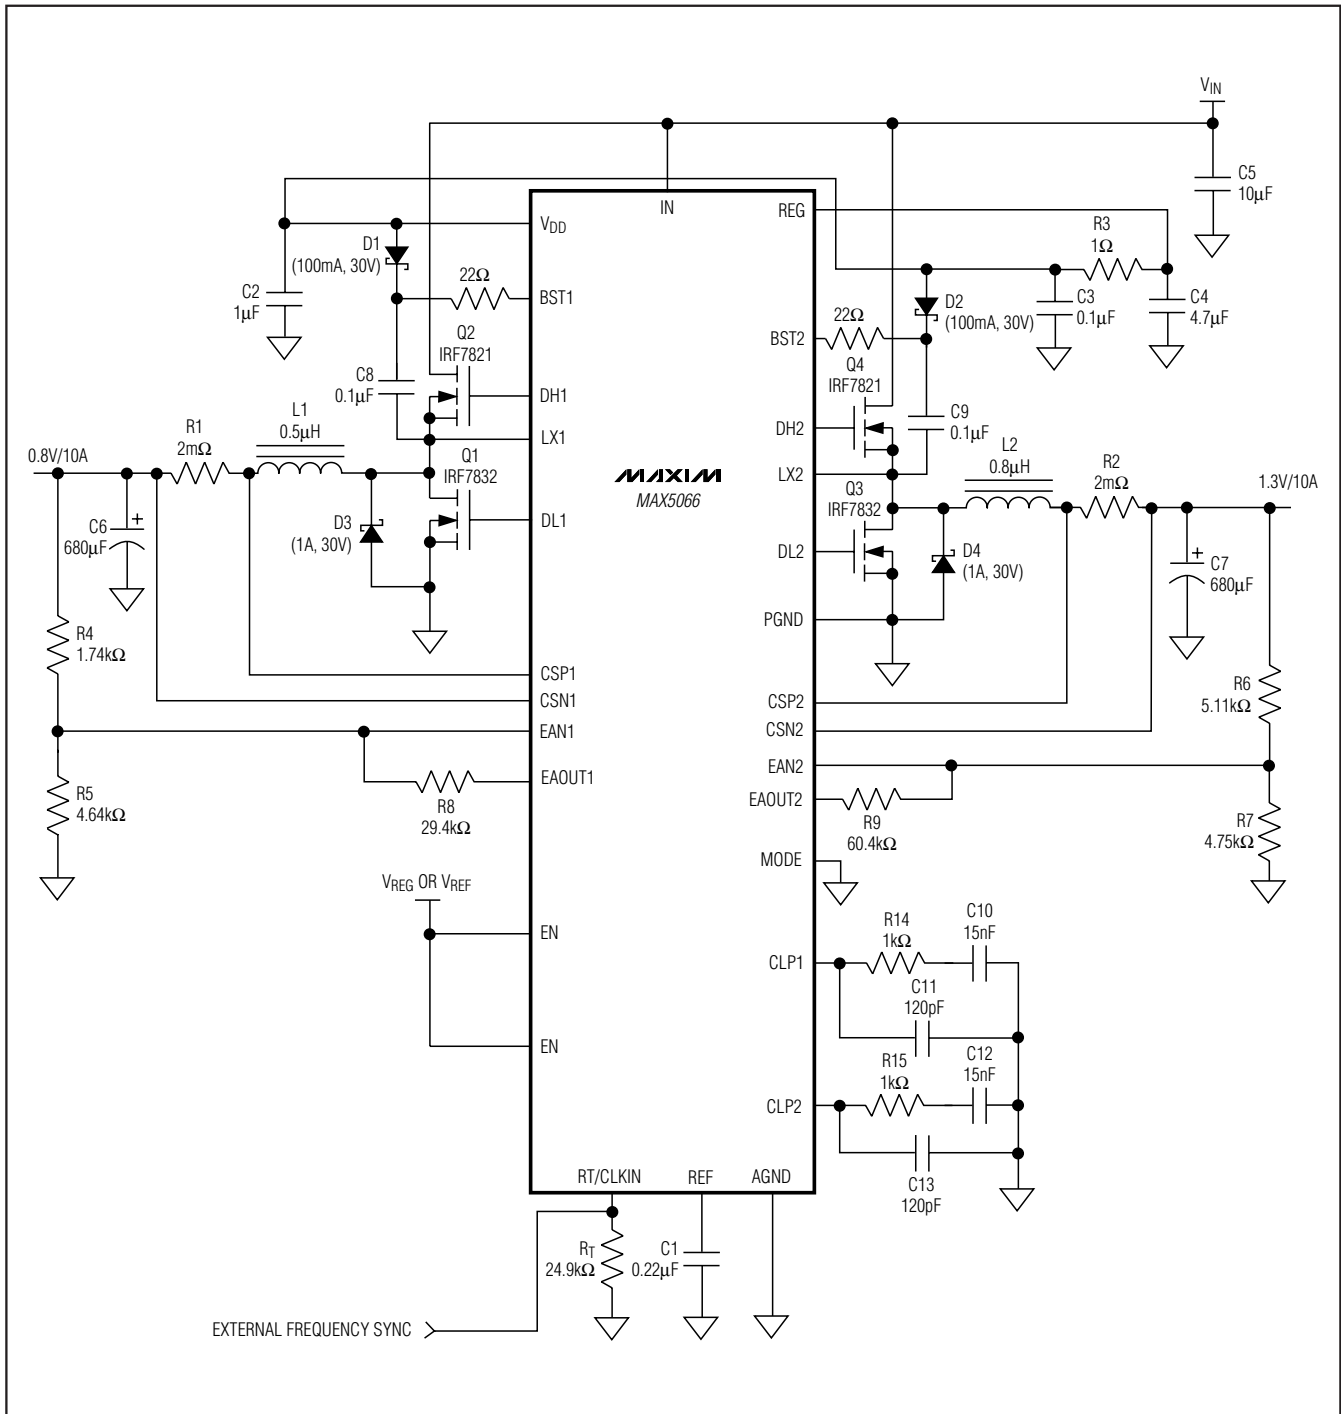
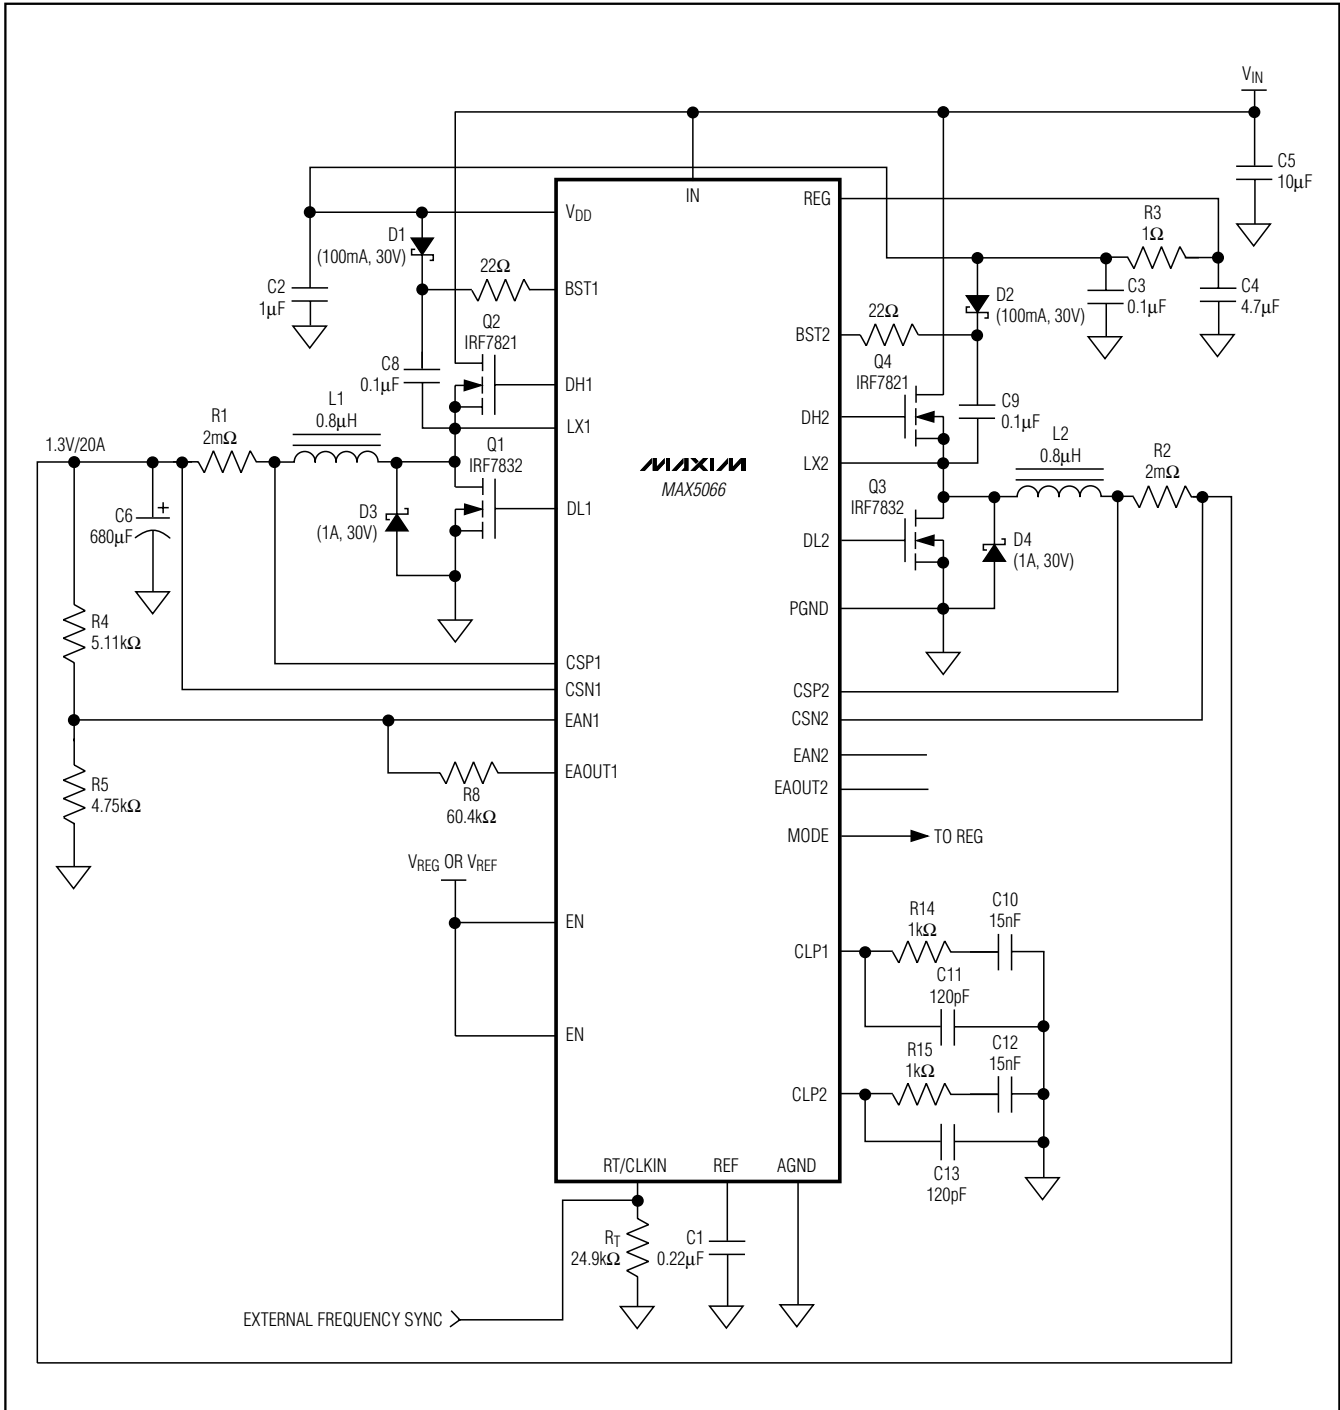

Figure 6. Dual-Output Buck Regulator
Figure 7. Dual-Phase, Single-Output Buck Regulator
where IIN is the quiescent supply current into IN (4mA, typ), QGQ1, QGQ2, QGQ3, QGQ4 are the total gate charges of MOSFETs Q1 through Q4 at VGS = 5V (see Figure 6), and fSW is the switching frequency of each individual phase.
BST1 and BST2 supply the power for the high-side MOSFET drivers for output 1 and output 2, respectively. Connect BST1 and BST2 to VDD through rectifier diodes D1 and D2 (see Figure 6). Connect a 0.1μF ceramic capacitor between BST_ and LX_.
the boost capacitors, C8 and C9 (see Figure 6). This is accomplished by using short, wide trace lengths.
The compensation network at the current-error amplifiers (CLP1 and CLP2) provides an inherent soft-start of the output voltage. It includes (R14 and C10) in parallel with C11 at CLP1 and (R15 and C12) in parallel with C13 at CLP2 (see Figure 6). The voltage at the current-error amplifier output limits the maximum current available to charge the output capacitors. The capacitor at CLP_ in conjunction with the finite output-drive current of the current-error amplifier yields a finite rise time for the output current and thus the output voltage.
An internal oscillator generates the 180° out-of-phase clock signals required for both PWM modulators. The oscillator also generates the 2VP-P voltage ramps necessary for the PWM comparators. The oscillator frequency can be set from 200kHz to 2MHz by an external resistor (RT) connected from RT/CLKIN to AGND (see Figure 6). The equation below shows the relationship between RT and the switching frequency:
bility of these drivers provides ample drive for the fast rise and fall times of the switching MOSFETs. Faster rise and fall times result in reduced switching losses. For low-output, voltage-regulating applications where the duty cycle is less than 50%, choose high-side MOSFETs (Q2 and Q4, Figure 6) with a moderate $R_{DS(ON)}$ and a very low gate charge. Choose low-side MOSFETs (Q1 and
Q3, Figure 6) with very low $R_{DS(ON)}$ and moderate gate charge. The driver block also includes a logic circuit that provides an adaptive nonoverlap time (30ns typical) to prevent shoot-through currents during transition. Figure 7 shows the dual-phase, single-output buck regulator.
where I_{MAX} is the full load current of the regulator. V_{OUT} is the output voltage of the same regulator and C_{IN} is C5 in Figure 6. The ESR of the input capacitors wastes power from the input and heats up the capacitor. Reducing the ESR is important to maintain a high overall efficiency and in reducing the heating of the capacitors.
where I_{LOAD_STEP} is the step in load current and $t_{RESPONSE}$ is the response time of the controller. Controller response time depends on the control-loop bandwidth. C_{OUT} is C6 and C7 in Figure 6.
where ΔV_{OUT} is the allowable drop in voltage from no load to full load. R_F is R8 and R9, R1 is R4 and R6, R2 is R5 and R7 in Figure 6.
For stability of the current loop, the amplified inductor-current downslope at the negative input of the PWM comparator (CPWM1 and CPWM2) must not exceed the ramp slope at the comparator's positive input. This puts an upper limit on the current-error amplifier gain at the switching frequency. The inductor current downslope is given by V_{OUT}/L where L is the value of the inductor (L1 and L2 in Figure 6) and V_{OUT} is the output voltage. The amplified inductor current downslope at the negative input of the PWM comparator is given by:
where R_{SENSE} is the current-sense resistor (R1 and R2 in Figure 6) and g_M × R_{CF} is the gain of the current-error amplifier (CEA₁) at the switching frequency. The slope of the ramp at the positive input of the PWM comparator is 2V × f_{SW}. Use the following equation to calculate the maximum value of R_{CF} (R14 or R15 in Figure 6).
where C_{CF} is C10 and C12 in Figure 6.
where C_{CFF} is C11 and C13 in Figure 6.